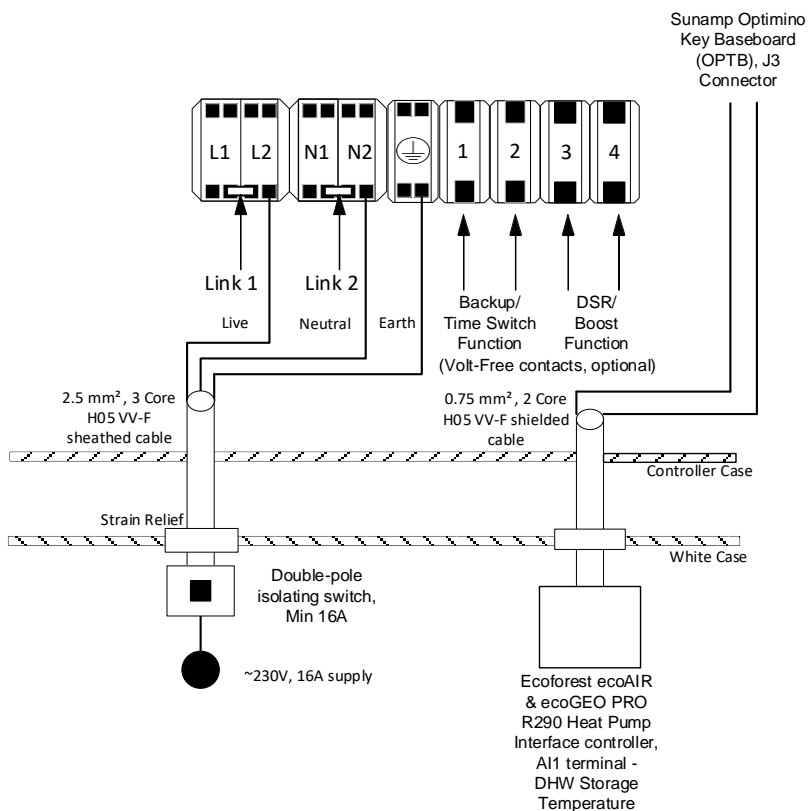

Figure ET.1 - Thermino xPlus with ET01 Optimino key
- Thermino xPlus with the “ET01” & “ET02” Optimino keys (D0084 – Section 6.4.2 for wiring instructions & Figures ET.1 & ET.2 below)
J3 on the Optimino Board; please see Figures ET.1 & ET.2 below for reference.